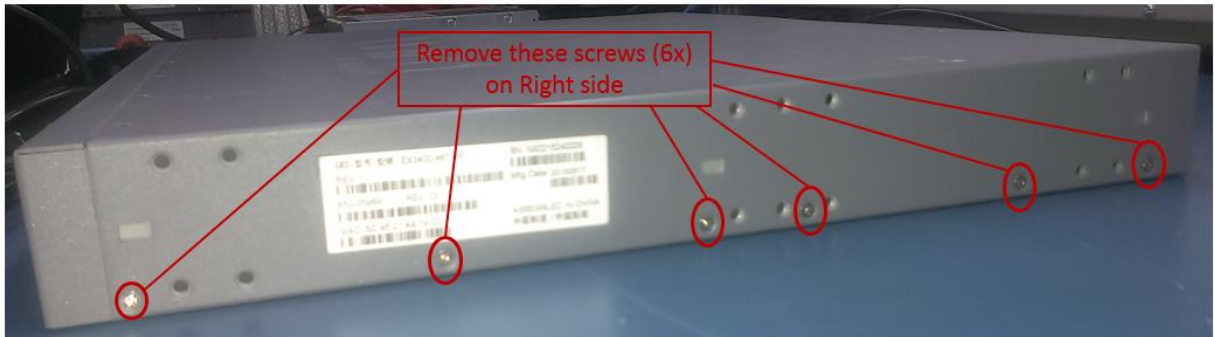

Figure 3-4: Right side screws
5. Remove six(6x) screws from right side of chassis (Figure 3-4)